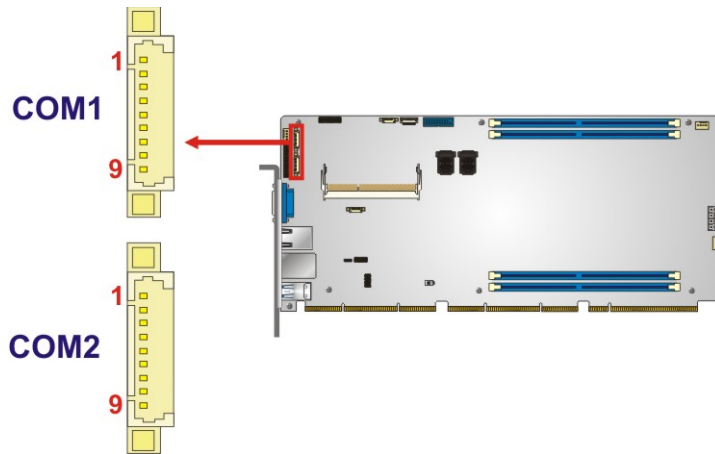

Figure 3-11: RS-232 Serial Port Locations
- CN Location:** See **Figure 3-11**